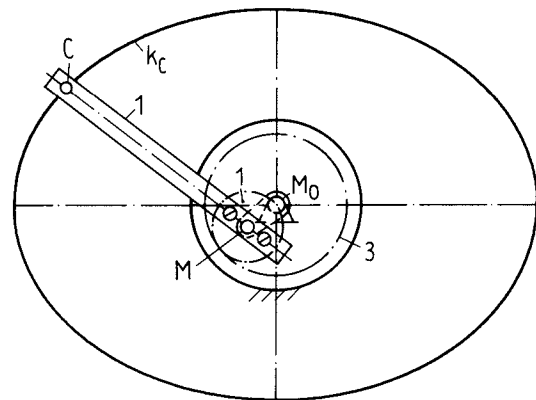

Figure 2. Cardan-circle.
The oval lathe mechanism's theory offers a kinematical equivalent to the trammel: The cardan-circle mechanism (Figure 2). Its crank M_0M carries in pivot M, a toothed wheel (1) with the arm MC mounted. This wheel is engaged with the internal toothed wheel (3) that has double the diameter of wheel (1) and is locked in the frame plane onto which a pencil in point C draws the ellipse k_c . The ellipse's half-axis difference is $d = 2 \cdot M_0M$. The double-slider mechanism of the trammel as well as the cardan-circle mechanism can serve as the basic mechanism for the oval lathe.